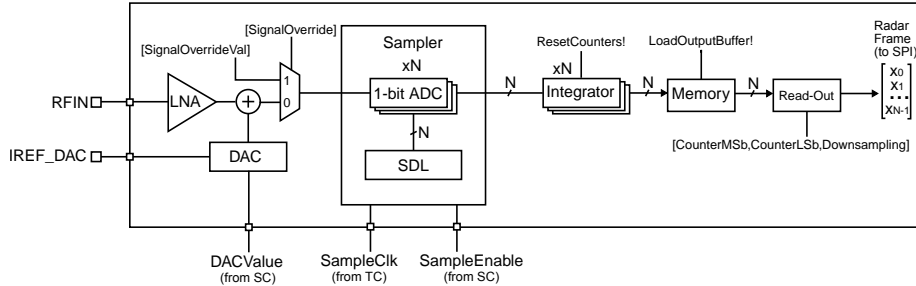

Figure 7.1. Receiver block diagram.
The X2 receive path (RX) consists of a Low-Noise Amplifier (LNA), a Digital-to-Analog Converter (DAC), 256 1-bit high-speed Analog-to-Digital Converters (ADCs) and digital integrators, as well as an output memory buffer for radar frame readout over SPI. A block diagram of the RX path is shown in Figure 7.1